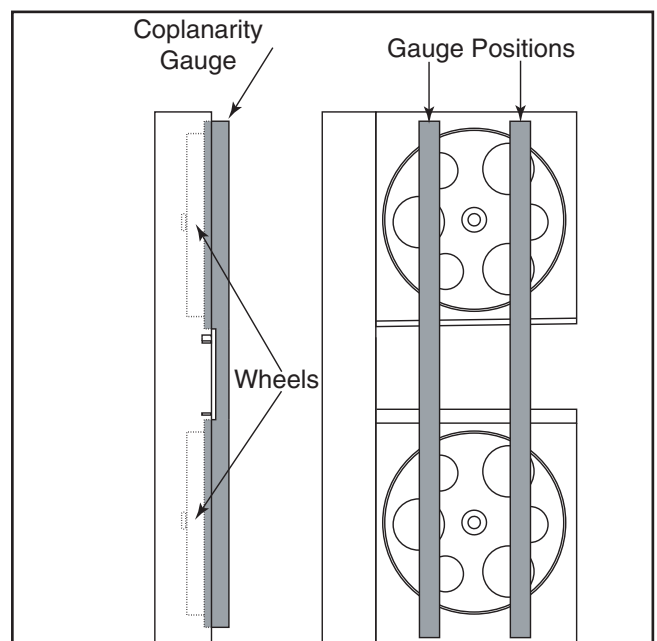

Figure 46. Coplanarity gauge positions.
5. Place your coplanarity gauge up against both wheels in the positions shown in **Figure 46**, making sure that the gauge fully extends across the wheels.